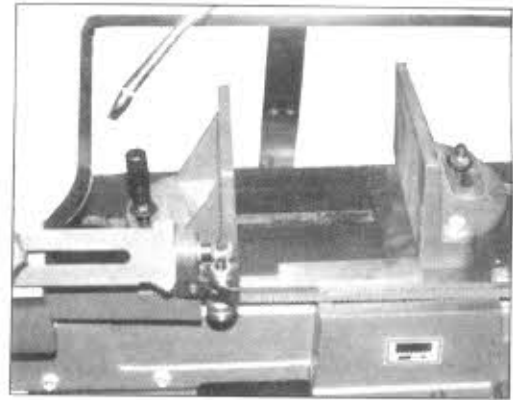

Fig.12
2. Place a machinist's square as pictured in figure 12 square should lie along entire length of vise and blade without a gap.